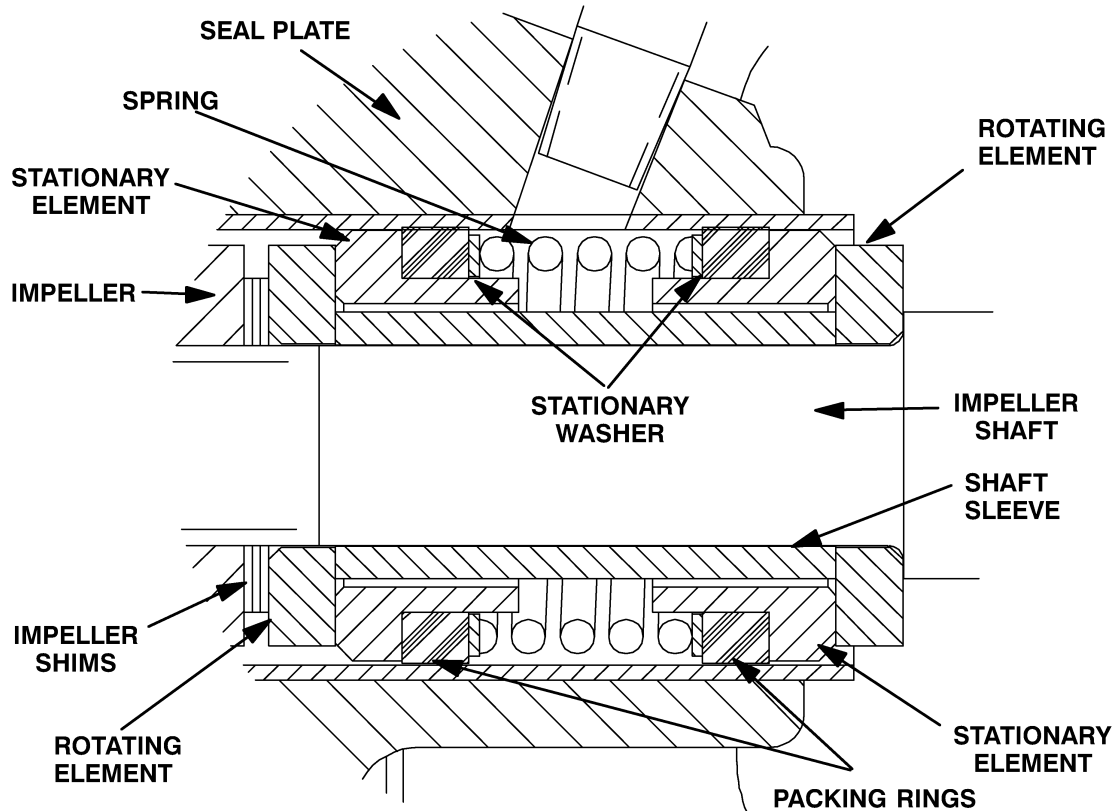

Figure E-3. Seal Assembly
To ease installation of the seal, lubricate the seal liner (59) with water or a very **small** amount of oil, and apply a drop of light lubricating oil on the finished faces. Assemble the seal as follows, (see Figure E-3).